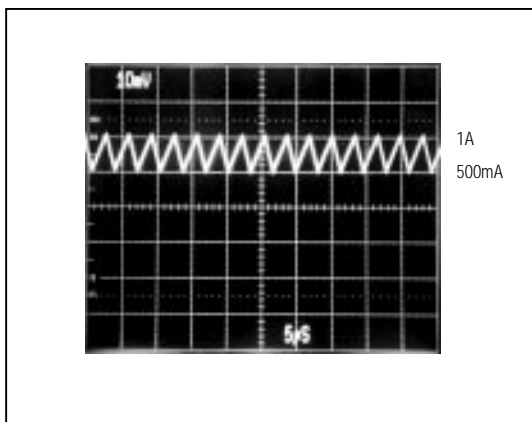

Figure 4a. CCM, Heavy Load Current Waveform (500mA/div)
The MAX761/MAX762 also limit the peak inductor current, allowing the devices to run in continuous-conduction mode (CCM) and maintain high efficiency with heavy loads (Figure 4a). This current-limiting feature is a key component of the control circuitry. Once turned on, the switch stays on until either (1) the maximum on-time one-shot turns it off ($8\mu s$ later), or (2) the current limit is reached.
The coil's inductance need not satisfy this criterion exactly, as the circuit can tolerate a wide range of values. Larger inductance values tend to produce physically larger coils and increase the start-up time, but are otherwise acceptable. Smaller inductance values allow the coil current to ramp up to higher levels before the switch can turn off, producing higher ripple at light loads. In general, an 18µH inductor is sufficient for most applications ($V_{IN} \leq 5V$). An 18µH inductor is appropriate for input voltages up to 3.6V, as calculated above. However, the same 18µH coil can be used with input voltages up to 5V with only small increases in peak current, as shown in Figures 4a and 4b.